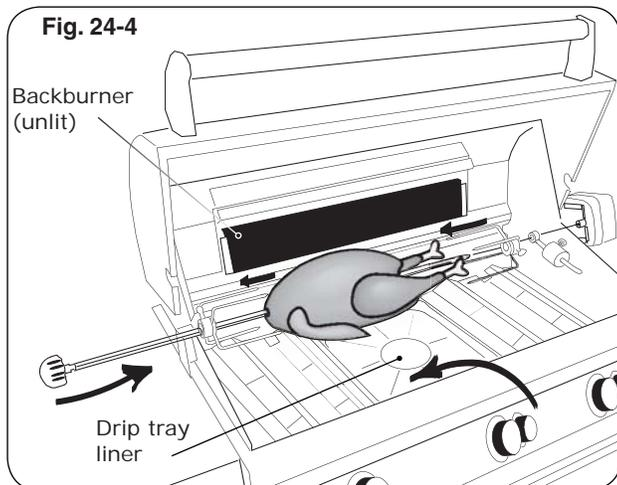

Fig. 24-4
4. Slide the left meat holder onto the rod (and tighten), the meat onto the rod and into the holder, followed by the right meat holder onto the rod and into the meat as shown in Fig. 24-4. Tighten the right meat holder. Be sure the meat is centered and balanced as well as possible.
9. To keep drippings off the burners and simplify cleanup, place Fire Magic® drip tray liners under the meat, if desired (Fig. 24-4).